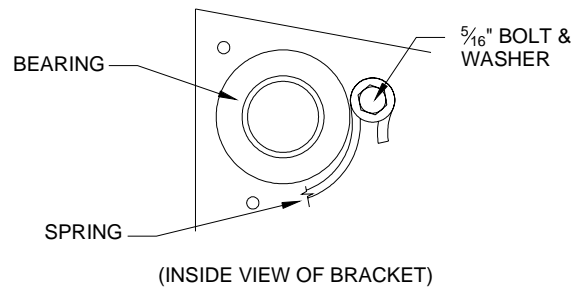

Figure 9.
of three holes in the door bracket. Secure with a 5/16" whiz nut. Repeat on the other end if the door comes with two springs. **ENSURE THAT THE SPRING FITS AROUND THE BEARING IN THE BRACKET BEFORE FINAL TIGHTENING.** See Figure 9.
16.6 Unbolt both brackets, referencing Figure 9.